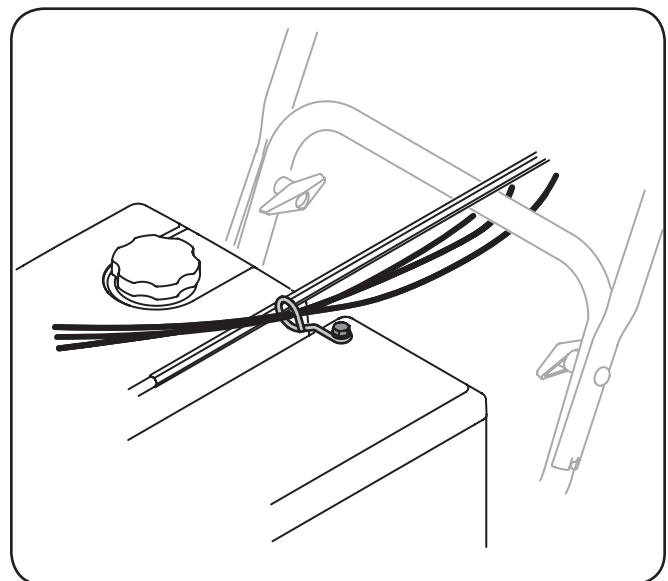

Figure 3-10
9. Check that the cables are properly routed through the cable guide on top of the engine. See Figure 3-10.